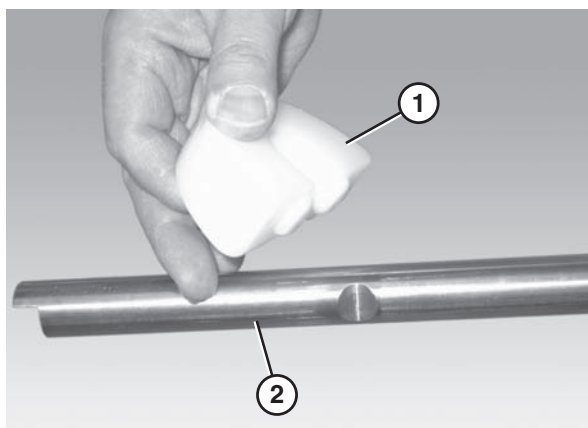

Figure 42
1. Attach the chain return shoes (Figure 42, item 1) to the return shaft (Figure 42, item 2).